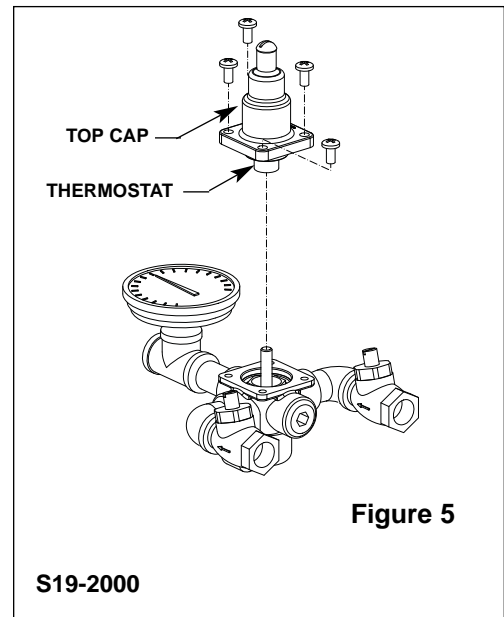

Figure 5
1. Remove the valve's top cap and thermostat (see Figure 5).
1. Remove the top cap and thermostat (see Figure 5, page 7).